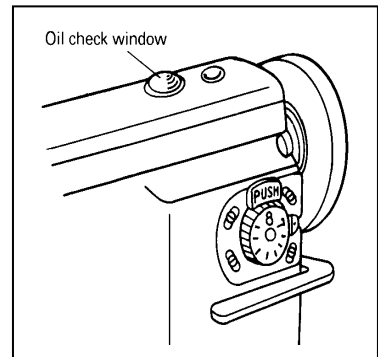

Fig.7
**10、 Condition of oil lubrication (Fig.7):**